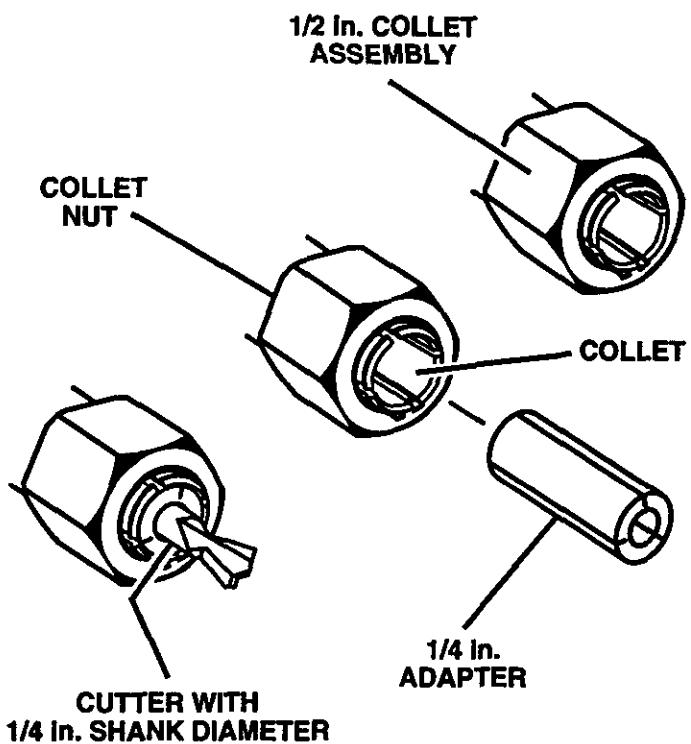

Fig. 5
- To use cutters with 1/4 in. shank bits, insert the 1/4 in. adapter provided inside 1/2 in. collet. See *Figure 5*.